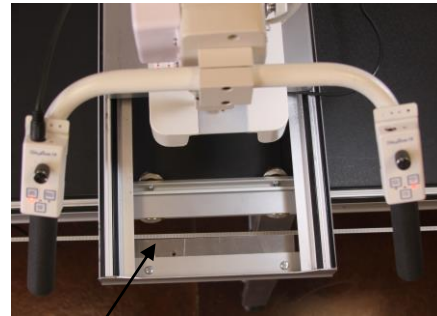

Fig 1
1. Using the Motor Box Bracket, attach this to the pre-drilled hole in the front of your carriage (*Fig 1*).